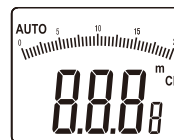

Figure 3-6-1
- Hold the "Lx/Fc/CD" button for one second and the display will switch to light intensity distance mode, where you can adjust the distance from the light source (as shown in figure 3-6-1).